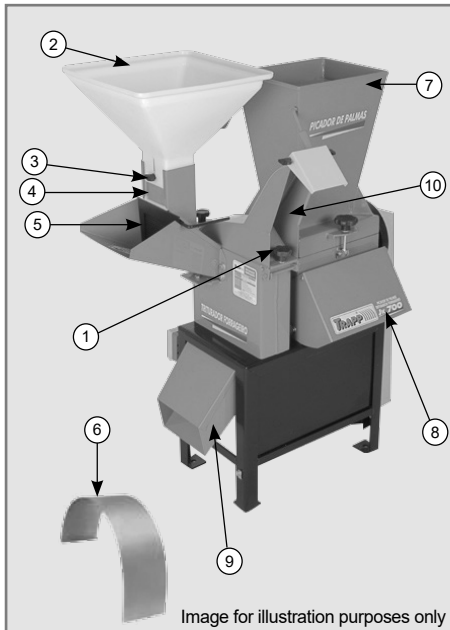

Figure 5
- ✓ Place the sealing cap (1), according to Figure 5.
- ✓ Place the green crop feeder cover (5).
- ✓ Select a suitable strainer (6) (according to the table on page 28). The resulting product depends on the diameter of the strainer used.
- ✓ The dry product is placed in the grain funnel (2), and then forwarded to be processed. The end product leaves the equipment (9) through the lower part.
- ✓ Be careful not to overload the motor. Adjust the grain input drawer (4) cover so that only the material the equipment is able to crush can be fed, according to the type of sieve chosen. The adjustment of the grain input drawer cover opening is conducted as follows: release the thumb screw (3) located below the drawer. With the drawer (4) cover released, adjust by pulling if you required a larger opening or pushing in case you need a smaller opening. After the adjustment, tight the thumb screw (3).
- ✓ Remove the sealing cap (1), according to Figure 5.
- ✓ Remove the green crop feeder cover (5).
- ✓ Place the flat strainer (6), as the material will exit through the upper part of the equipment.
- ✓ Green products such as grass and sugar cane are placed in the green hopper (5), from where it is addressed to be processed, being released by the upper part of the equipment (10).
- ✓ If desired, when preparing green products, the grain hopper (2) can be removed.
- ✓ Adjust the driver (8) according to your need as shown in Figure 5.
- ✓ The material must be introduced through the feeding hopper (7) and must be introduced gradually so as not to overload the machine.